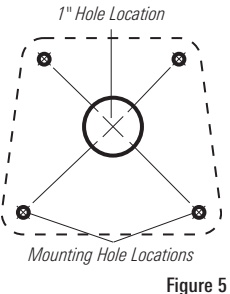
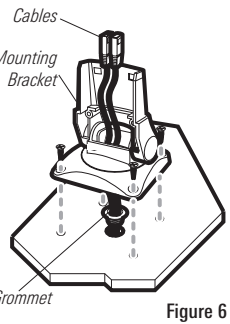

Figure 5
Figure 6
- 1a. If the cables must pass through a hole directly beneath the mounting bracket, mark and drill an additional 1" hole centered between the four mounting holes (Figure 5). Route the cables through the grommet, then press the grommet in place around the cables and into the 1" hole. Pass the cables out of the top of the mounting bracket (Figure 6).